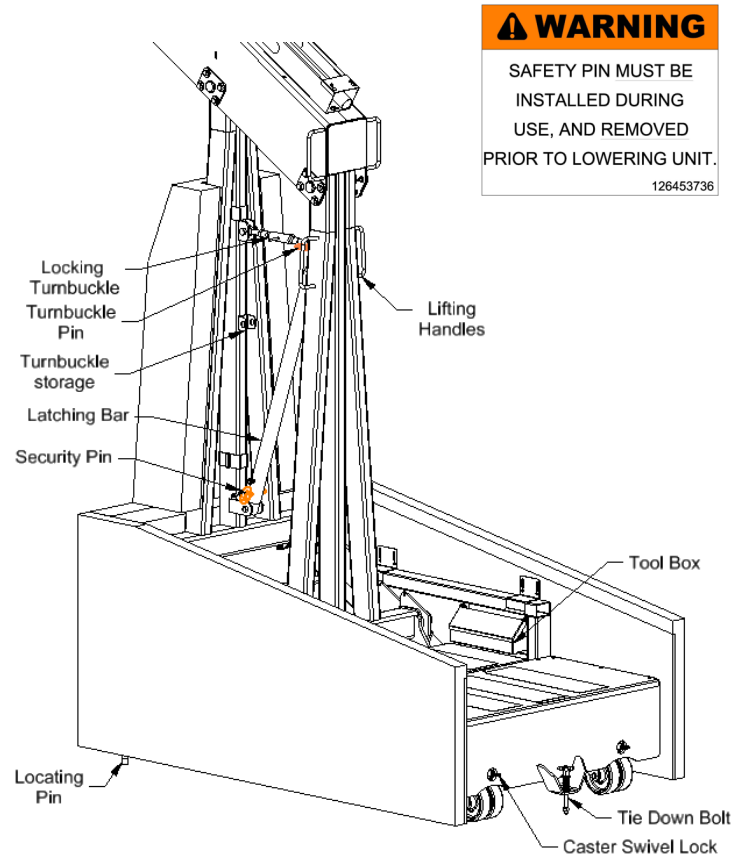

Figure 30
- b. Release the rear Tie Down Bolt. The Tie Down Bolt should be removed from the frame and stored in the Tool Box on the left-hand side of the unit, shown in figure 30 and 34.